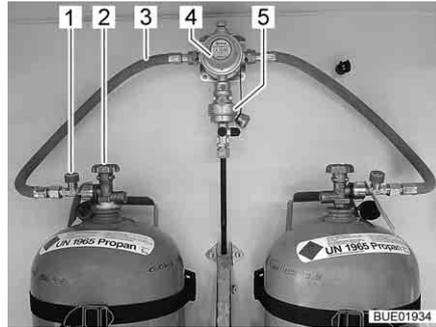
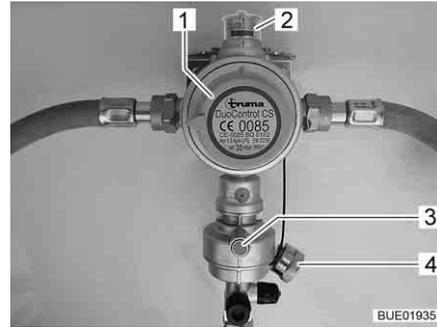

Fig. 35 Gas bottles with DuoControl
Fig. 36 DuoControl regulating system
The DuoControl regulating system consists of a reversing valve (Fig. 35,4) and a crash sensor (Fig. 35,5). The DuoControl regulating system is installed between the gas tubes (Fig. 35,3) with hose break guard (Fig. 35,1). The knob (Fig. 36,1) on the reversing valve is used to select which of the gas bottles is to be used as primary bottle and which is to be used as reserve bottle.
The status of the gas supply is indicated in the inspection window (Fig. 36,2):
The operation with only one gas bottle is allowed but in this case the open connection must be closed with a blind cover (Fig. 36,4).
The crash sensor blocks the gas supply in the event of a significant impact (e.g. accident). The crash sensor is put into operation with the green reset button (Fig. 36,3).
The hose break guard (Fig. 35,1) blocks the gas flow if the connected hose breaks. The hose break guard must be activated by pressing the green button.
At the operating unit (Fig. 37), the gas supply via the DuoControl regulating system is switched on and off. The regulator taps (Fig. 35,2) of the gas bottles and the gas isolator taps of the devices must be opened manually.
- Use the knob (Fig. 36,1) on the reversing valve to select the gas bottle which is to be the primary source of gas (primary bottle). Always turn the knob as far as it will go.
- Open regulator taps (Fig. 35,2) on the gas bottles.
- Press the green button of the hose break guard (Fig. 35,1). The green marking is shown in the inspection window (Fig. 36,2).
- Close regulator taps (Fig. 35,2) on the gas bottles.
If the green indicator lamp (Fig. 37,6) goes out during operation and the red indicator lamp (Fig. 37,5) lights up, the primary bottle is empty and must be changed. The red marking is shown in the inspection window (Fig. 36,2). The reserve bottle continues supplying the gas appliances with gas.
- Turn the knob (Fig. 36,1) a half turn in the direction of the currently used gas bottle. In this way, this gas bottle is the primary bottle now, and the empty gas bottle becomes the reserve bottle. The marking in the inspection window (Fig. 36,2) changes from red to green.
- Close regulator tap (Fig. 35,2) on the empty gas bottle. Pay attention to the direction of the arrow.
- Press the green button of the hose break guard (Fig. 35,1).